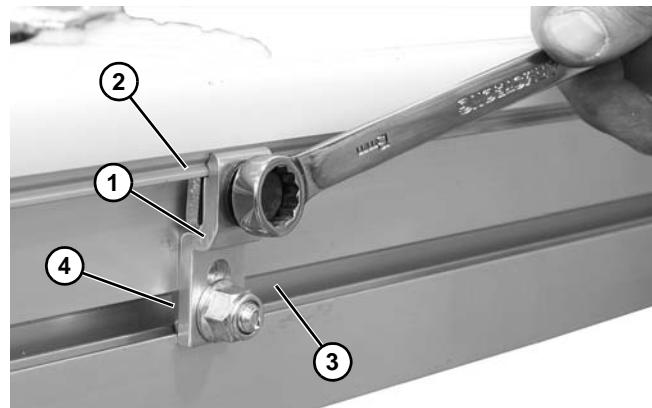

Figure 29
2. Attach clip (**Figure 29, item 1**) to guiding (**Figure 29, item 2**).
Make sure that the studs (**Figure 29, item 4**) rotate inside the channel and engage with the conveyor.
3. Attach clip (**Figure 29, item 1**) to conveyor (**Figure 29, item 3**).